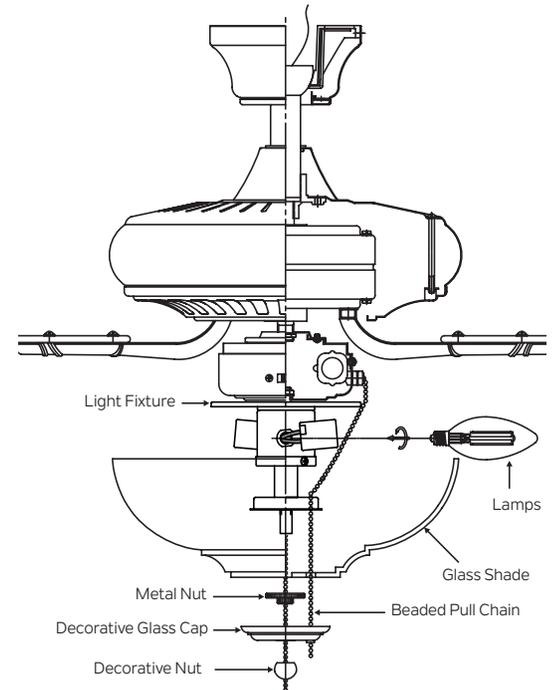

Fig. 19
2. Remove the decorative nut, glass cap and metal nut from the light fixture stem. Slip the beaded pull chain into the outside hole in the glass shade then feed the beaded pull chain from the light fixture stem through the eyelet in the shade. Now place the glass shade over the light fixture stem. Secure the shade with a metal nut (rubber side touching the shade). (Fig. 19)
4. Attach two pull chain fobs to each of the beaded pull chains. (Fig. 19)